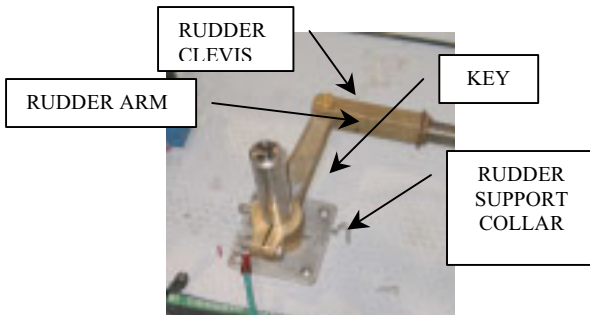

Figure 1- Rudder Arm Location
2. After pulling the boat and securing it, disconnect the rudder arms from the rudder tie bar by removing the clevis pin. (See Figure 1)
4. From outside the boat, support one rudder using a floor jack or suitable equivalent. Inside the boat, remove the support collar and the rudder arm key for the jack-supported rudder. (See Figure 1) Lower the jack until you are able to remove the rudder completely from the boat. Repeat for the other rudder.